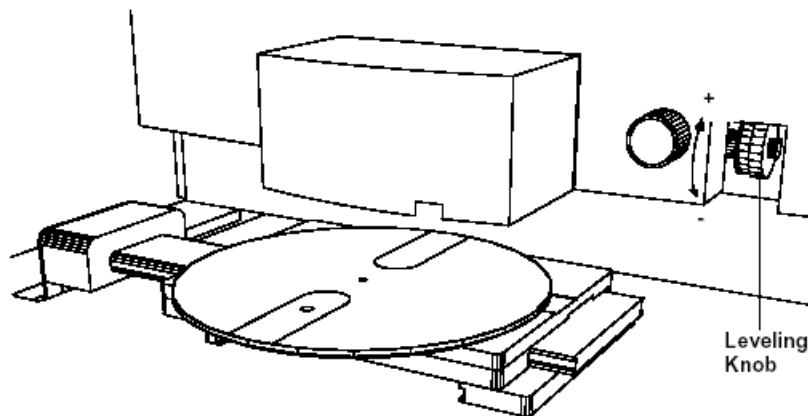

Figure 7.4 Leveling the Stage
2. Turn the leveling knob by a few counts but never a full turn. Refer to Figure 7.4 for location.